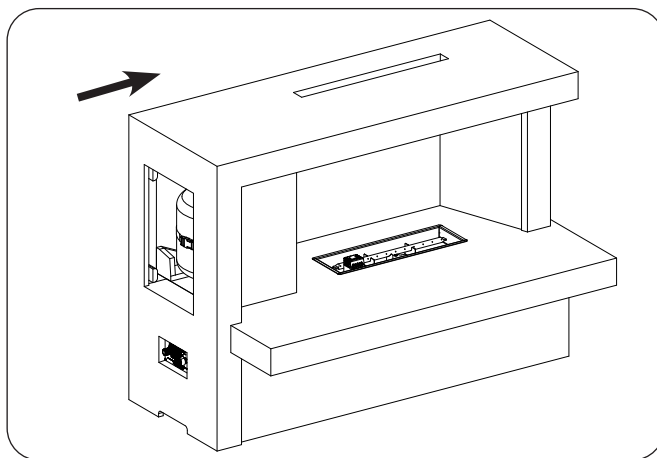

Fig. 26-1 Slide housing into position
1. Once gas connection is complete, carefully slide the housing piece into position (see Fig. 26-1).